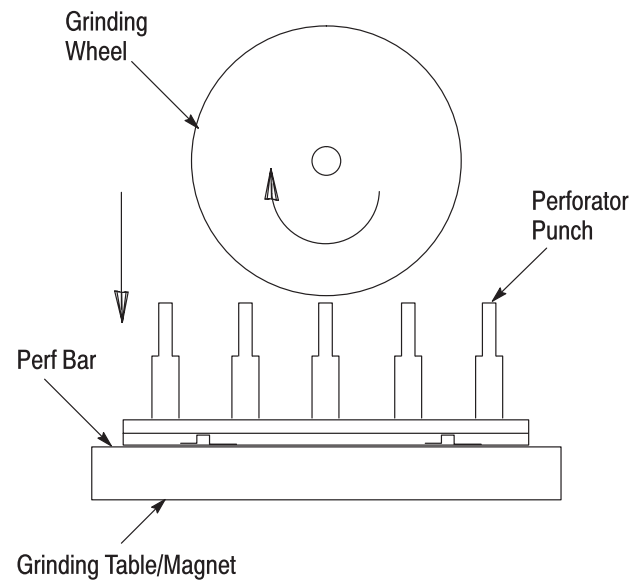

Figure 7
- Place the perf bar and perforators on the grinding table as shown in Figure 7.